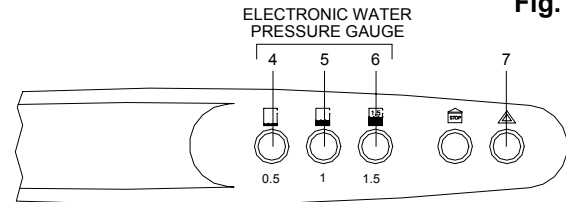

Fig. 2
- C. Insert the thermostat wires (fig.2) one in terminal TA and the other in the one next to it occupied by bridge PT which you have just moved.
### SELF-DIAGNOSTIC LEGEND (see fig. 2)